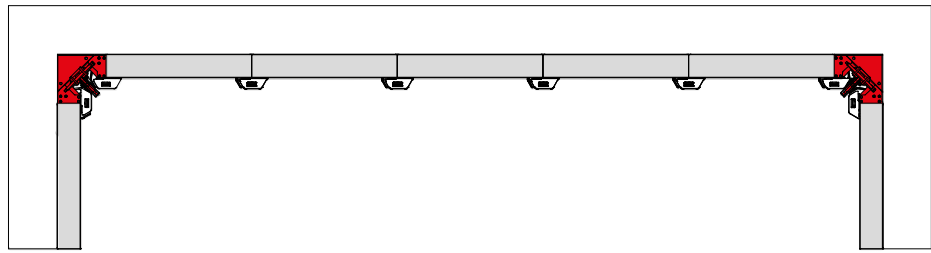

Fig. 53.1
1. Remove the AS assembly locks connecting the stripping corners to the panels (Fig. 53.1).